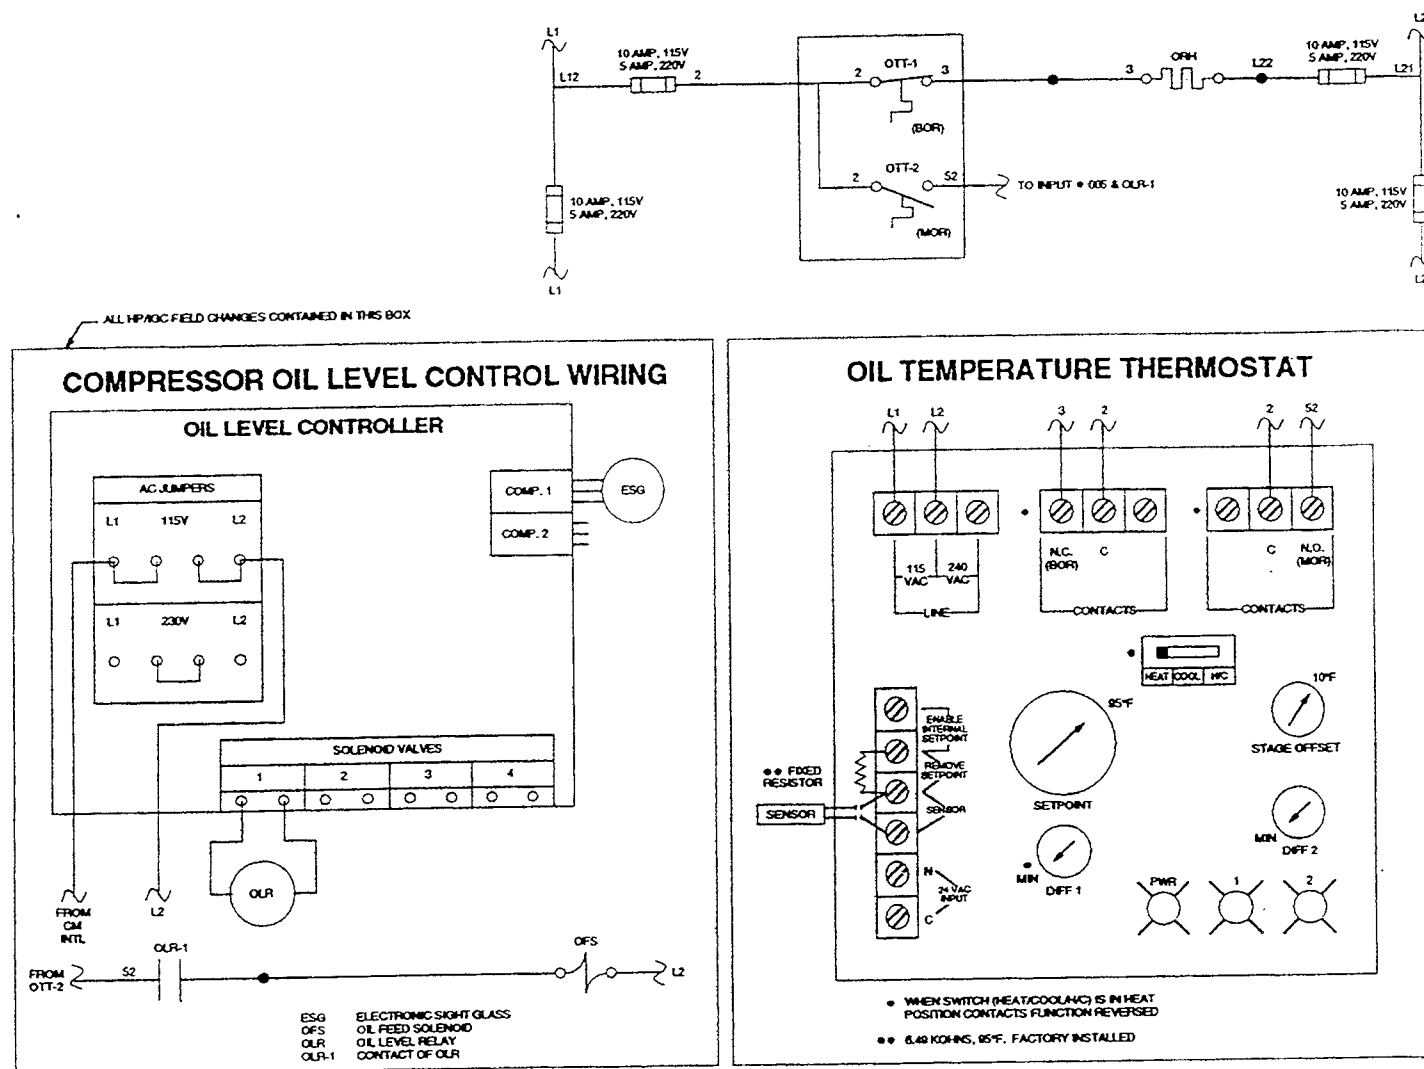

Figure 2 Modifications To HP/IGC Field Units
As shown in Figure 2, wire number L1 to OLR-1 is changed to wire number 52. This provides control of the OFS through the OTT-2 at all times. If the 10 amp fuse to the oil pot heaters blows or the heater does not function properly, the absence of the OTT-2 signal to the PLC will indicate an abnormal condition. With this arrangement, operation of the unit will terminate after a preset time interval and the OFS will be disabled to prevent the return of refrigerant to the compressor. With this logic, the compressor safety circuit uses the low oil pressure failure (OPTD) as a secondary control instead of the primary means of terminating compressor operation. Operation will terminate when the heater circuit is no longer able to provide oil to the compressor crankcase at the proper temperature. Refer to the wiring diagram provided with your equipment to confirm the actual wire numbers to be changed on your equipment. On some units, wire numbers may differ from the typical wiring shown.
For HP and IGC models, refer to Figure 2 for the required wiring changes. Control of the OFS is still through the OTT. However, the HP and IGC models have always used a fail safe logic in which the thermostat makes-on-rise (MOR). To rewire these models requires removing the L1 wire from the OFS solenoid and connecting wire 35.
The power to the electronic oil level control has always been from the main control power (L1) on the HP and IC models. To prevent the OFS from opening with the unit off, remove the L1 wire from the power connection on the oil level controller and connect a wire from a compressor motor starter interlock as shown in Figure 2.
2. If your unit is wired as indicated, refer to Figure 2 for modifications to HP and IGC models.